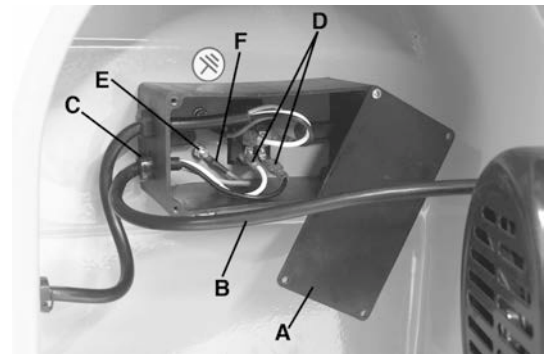

FIGURE 13
1. Locate the motor housing cover. Unscrew and remove 3 small pan head screws and slide the switch box cover (A) Fig.13 out of the way.
2. Position the motor housing cover close enough to the motor so the motor cord (B) can reach the switch box. Insert the 3 motor cord wires into the switch box and secure motor cord to switch box using a strain relief wire clamp (C).
3. Then connect the black and white wire connectors (D) to the bottom terminals on the switch. Either wire connector can be connected to either terminal.
4. Undo the top grounding hex. nut (E) and secure green ground wire (F) to screw.
5. Secure the switch box cover (A) using the same 3 pan head screws removed in step 1.